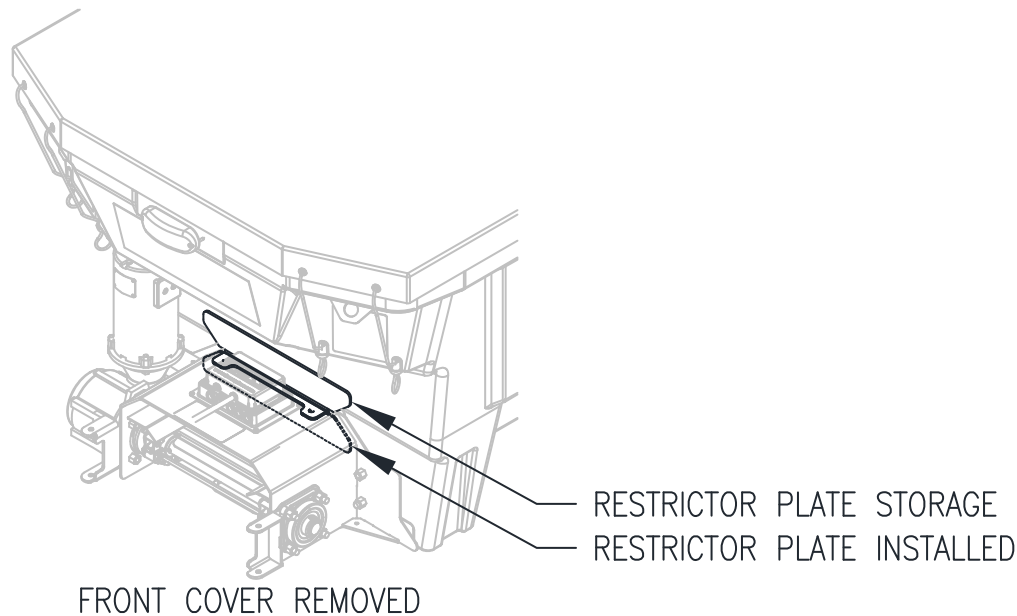

Figure 31. Restrictor Plate Installation
1. Pintle Chain spreaders are shipped with a restrictor plate in "Stored" position as pictured in Figure 31. If flow of spreader is too fast, install the plate as follows.